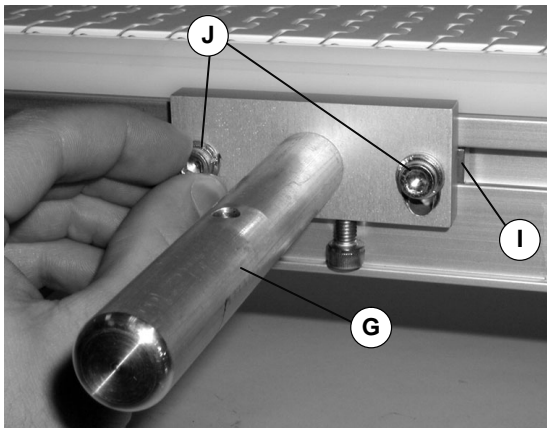

Figure 6
4. Attach support bar assembly (G of Figure 6) to conveyor using T-bar (I) with screws (J), hand tighten.